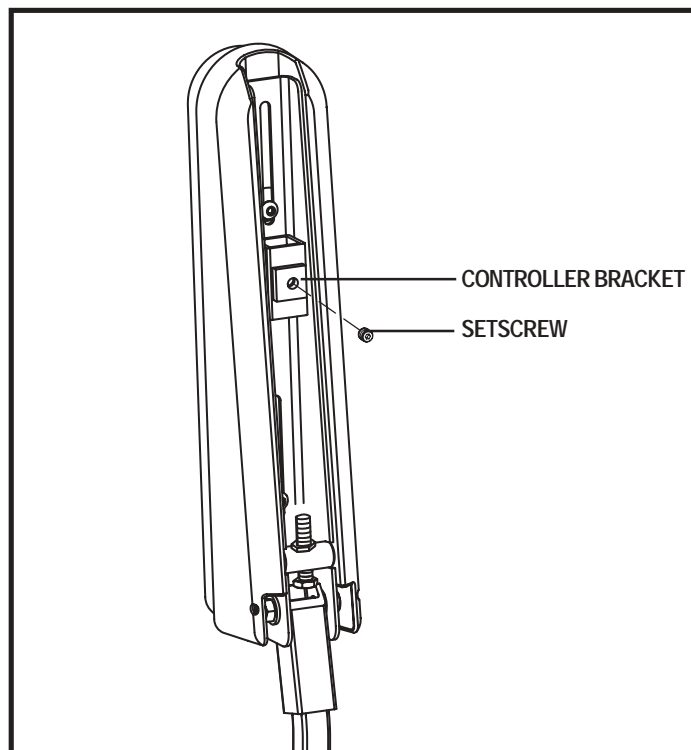

Figure 16. Underside of Armrest
2. Loosen the setscrew on the controller bracket. See figure 16.
7. Loosen the setscrew under the armrest. See figure 16.